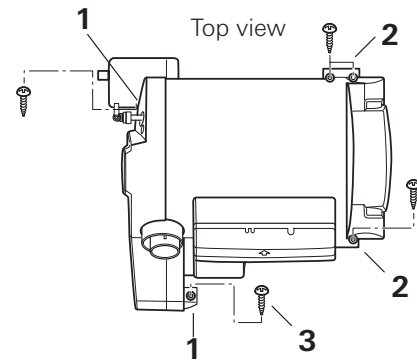

Fig. 5
- Use the supplied or equivalent screws (Fig. 5 – 3).
1. Screw both aluminum frame feet (Fig. 5 – 1) to the floor or false floor.
2. Screw at least one plastic frame foot (Fig. 5 – 2) to the floor or false floor.